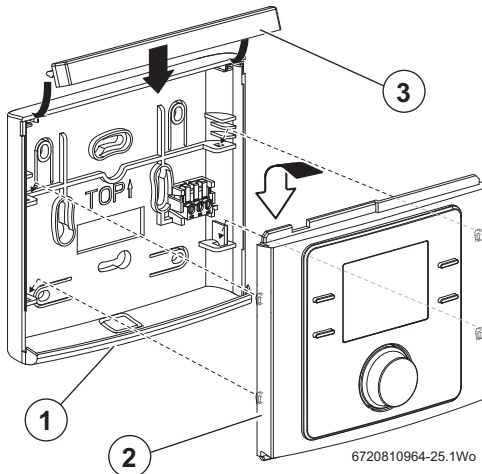

Fig. 4 Fitting Timer to wall plate assembly
- ▶ Engage the four clips on the back of the Programmer [2] with the four slots on the wall plate as shown in figure 4